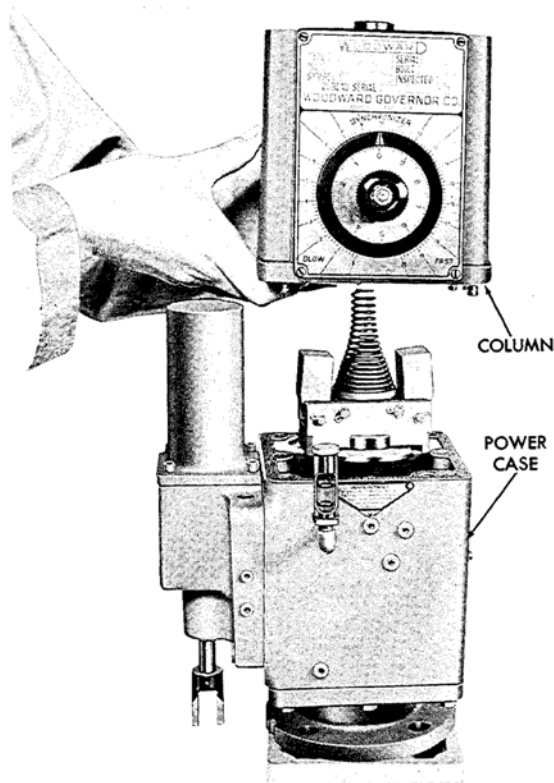

Figure 2-1. Column Removal
1. Back out four fillister head screws (6) (located at lower inside corners of column) and lift column (8), gasket (11), lockwashers (7), and screws (6) vertically from the power case, as shown in Figure 2-1.
3. Measure and record the distance from the top of the speeder plug (14) to the top of the column (8).
4. Remove round head screws (28) and take off dial plate (27).
5. Remove screws (23), panel (15), and panel gasket (9).
6. Taking care that speeder plug (14) does not slip out, back off elastic stop nut (34) and remove the speed setting knob (33), numbered disc (32), indicator gear (30) with pointer disc (31), dial shaft assembly (17), washer (18), spring (19), and pinion assembly (12). Turn gear shaft assembly (22) to run speeder plug (14) out of bore in column. Remove shaft assembly.